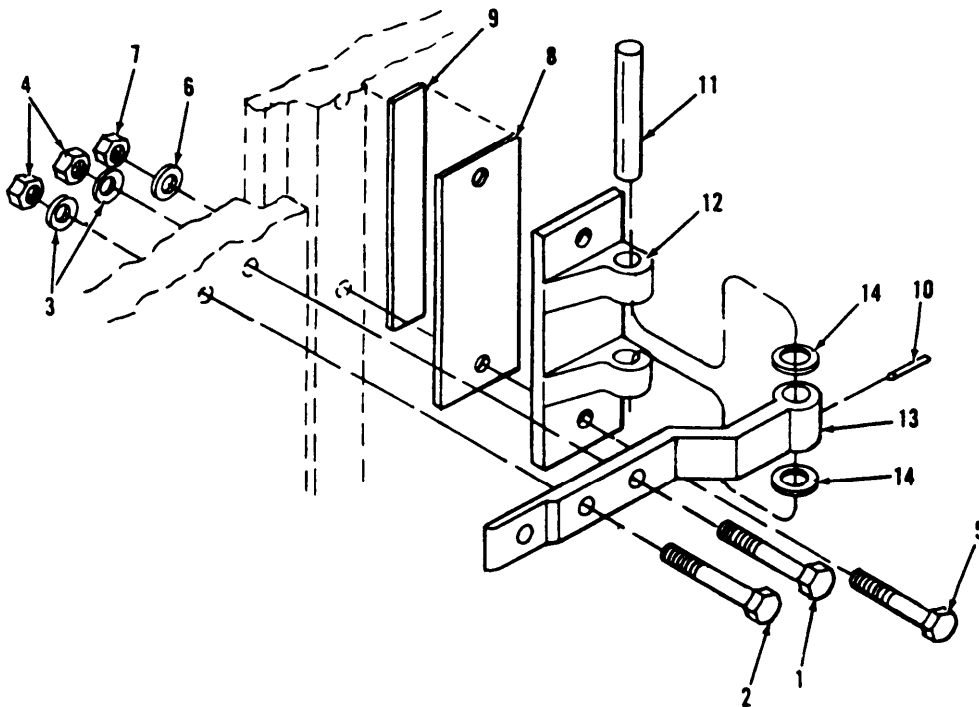

Figure 3-16. Hinge Assembly Replacement.
- a. Inspect. (Figure 3-16)
- (1) Inspect hinge for ease of movement.
- (2) Inspect for cracks or dents.
- (3) Inspect secure mounting.
- b. Remove. (Figure 3-16)
- (1) Remove and retain two bolts (1) and a bolt (2), three flat washers (3), and three nuts (4) attaching the hinge body (13) to door panel.
- (2) Remove and retain two bolts (5), flat washers (6), and nuts (7) attaching the hinge butt plate (12) to shelter, and remove hinge and shims (8 and 9).